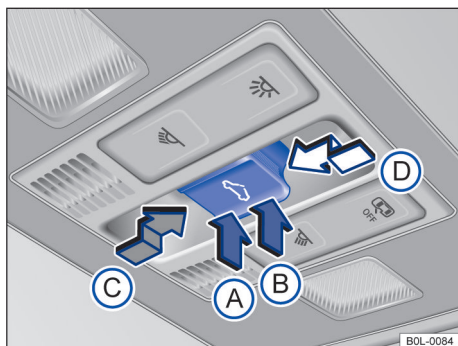

Fig. 52 In the roof: button for the glass roof
- *Tilting the glass roof:* Push button → Fig. 52 (B) to the first position. Automatic operation: push button (B) to the second position.
- *Closing the tilted glass roof:* Push button (A) to the first position. Automatic operation: push button (A) to the second position.
- *Opening the glass roof:* Push button (C) to the first position. Automatic operation to a convenience position: push button (C) to the second position.
- *Closing the tilted glass roof:* Push button (D) to the first position. Automatic operation: Push button (D) to the second position.
- *To terminate the autorun on or off process:* Press the button (C) or (D) again.